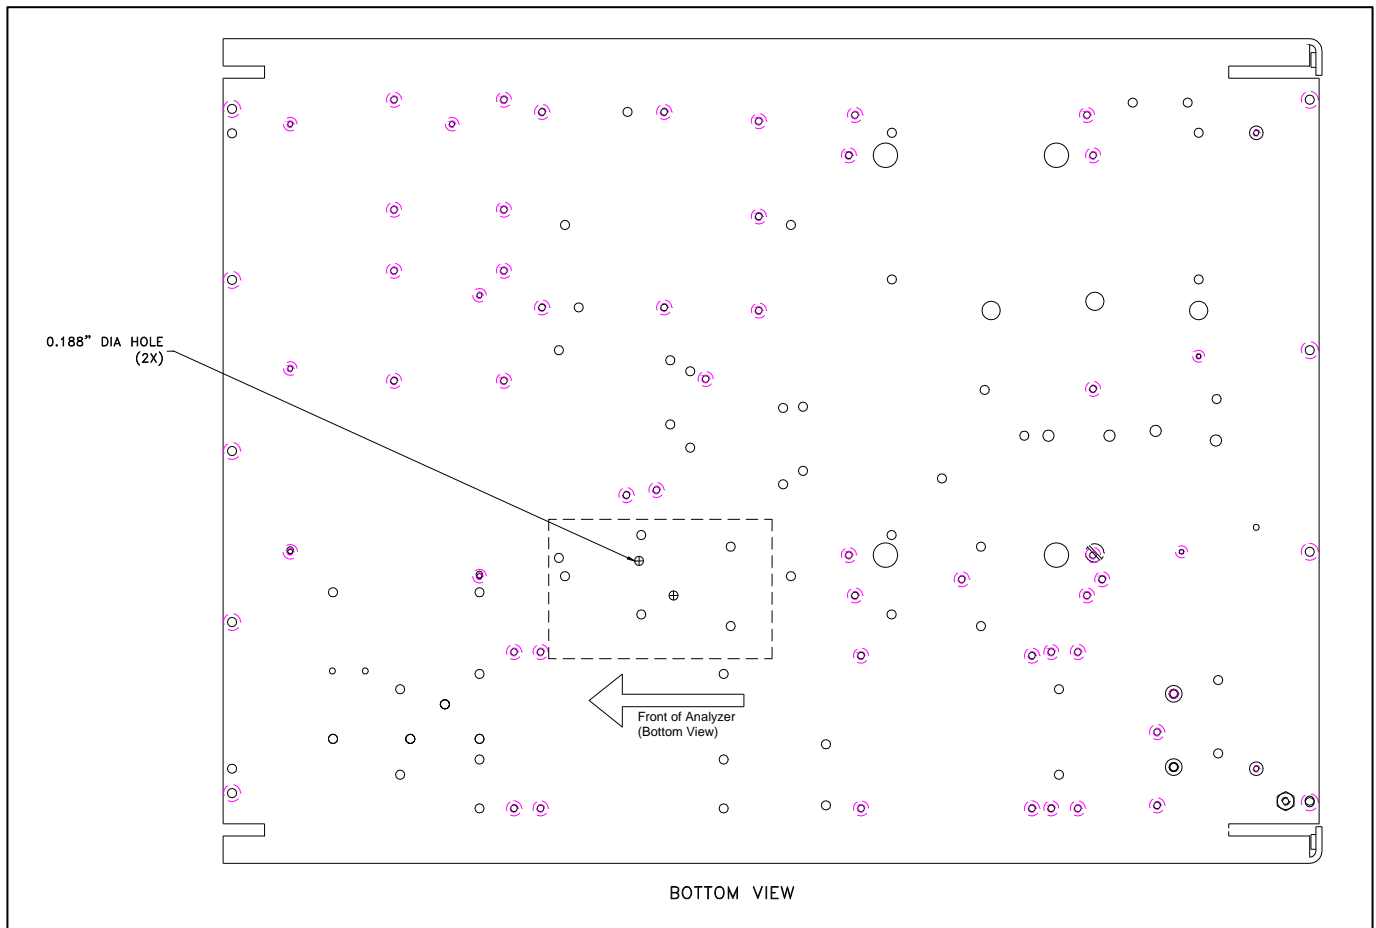

Figure 1
4. Lay the drill template on the chassis in the location shown in Figure 1. Carefully align the existing holes with the circles on the template and tape the template down.